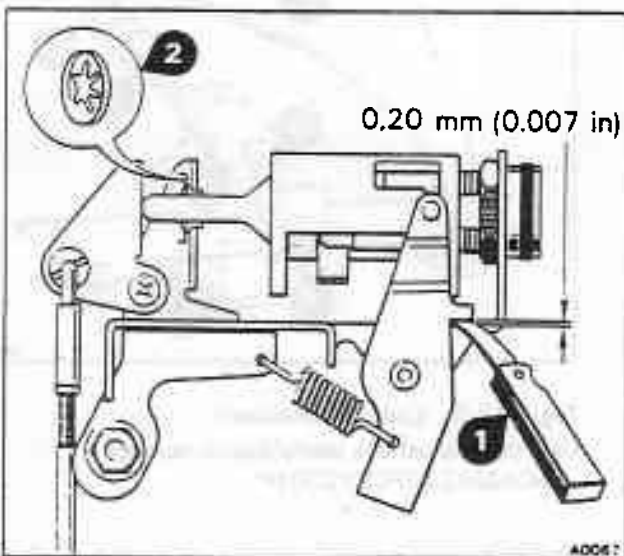

Fig. S13-7 Setting the lock actuator
1. To ensure the correct operation of the lock mechanism, a new Starlock washer (item 8) and private lock sealing rings (item 12) should be used on assembly.
3. With the actuator in the unlocked position, place a 0,20 mm (0.007 in) feeler gauge between the release lever stops and the lock mounting bracket (see fig. S13-7, item 1). Locate the Starlock washer (item 2) over the actuator spigot and push it firmly up to the bush in the guide bracket. Remove the feeler gauge.
10. With the actuator in the unlocked position, place a 0.20 mm (0.007 in) feeler gauge between the release lever stops and the lock mounting bracket (see fig. S13-7, item 1). Locate the Starlock washer (item 2) over the actuator spigot and push it firmly up to the bush in the guide bracket. Remove the feeler gauge.